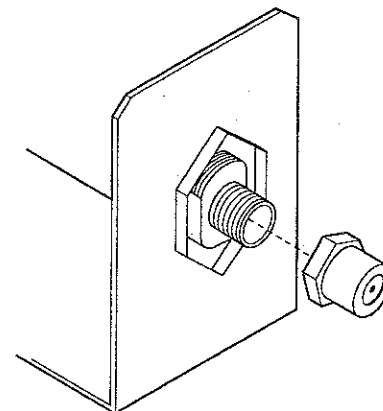

Figure 21
To derate this unit, order and install the appropriate high altitude orifice kit per the chart below. Remove the two (2) screws found at the base of the burner tray and remove the burner tray with tube. Use care to prevent damage to the air shutter adjustment rod. Remove the orifice (*Figure 21*) and replace with the appropriate one from the kit. Refer to the chart below. Be sure to attach the conversion sticker provided with the kit to the rating plate on the appliance.